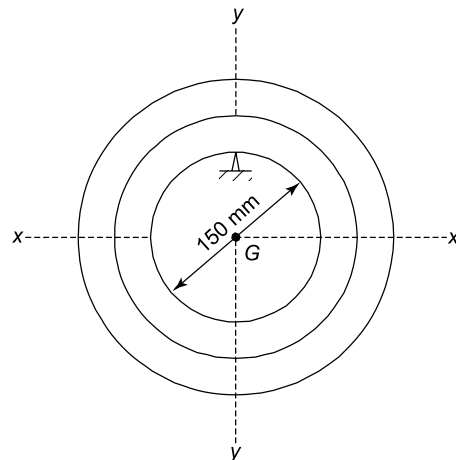

Figure 19.8
Problem 4. It is required to determine the mass moment of inertia about G of a metal ring, which has a complex cross-sectional area. To achieve this, the metal ring is oscillated about a knife edge, as shown in Figure 19.8, where the frequency of oscillation was found to be 1.26 Hz. If the mass of the ring is 10.5 kg, determine the mass moment of inertia about the centre of gravity, I_G . Take $g = 9.81 \text{ m/s}^2$.
By inspection of Figure 19.8, $h = 75 \text{ mm} = 0.075 \text{ m}$.
4. What will be the value of the mass moment of inertia through the centre of gravity, I_G , for the compound pendulum of worked problem 4 on page 236, if the inner diameter of the disc of Figure 19.8 were 100 mm?